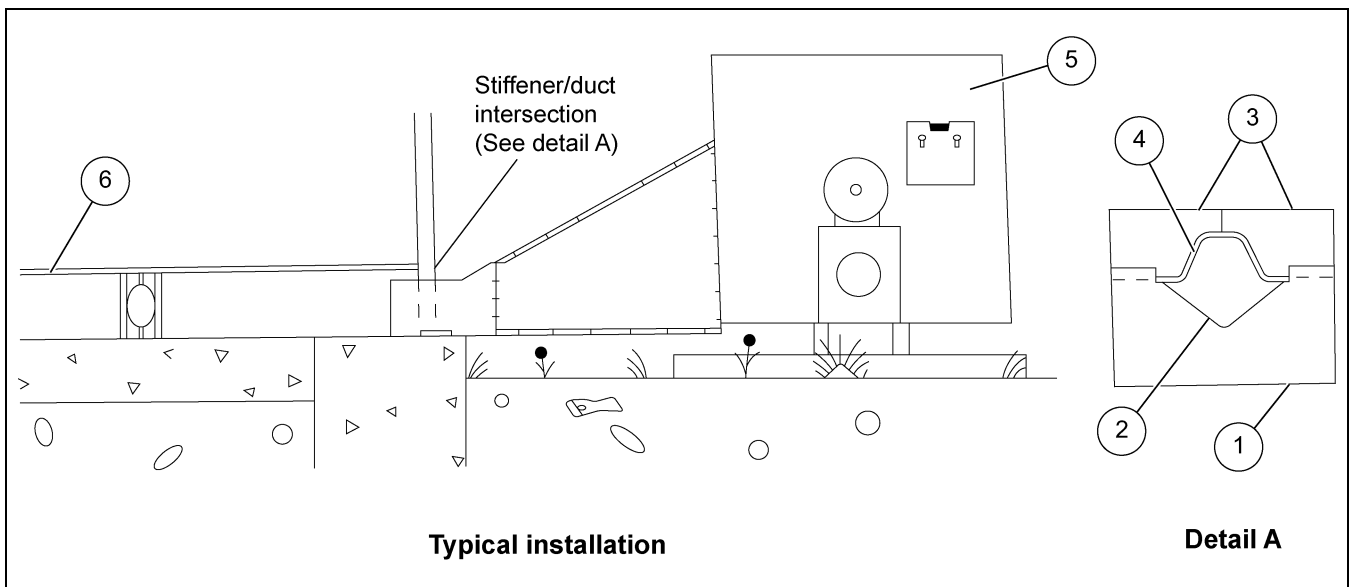

Figure 6
An access hole must be cut for the stiffener in bottom of the transition housing. Cut a 9" x 6" hole in the bottom center of the transition before attaching the transition to the bin. Attach transition to sidewall sheet as shown in Figure 6. Field drill 3/8" stiffener holes through transition entrance collar. A hole must now be cut in the top center of the transition. Mark a 9" wide x 6" opening for the stiffener to enter. Cut along the line. Bottom edge of entrance collar will also need to be trimmed to provide clear access for stiffener (4).